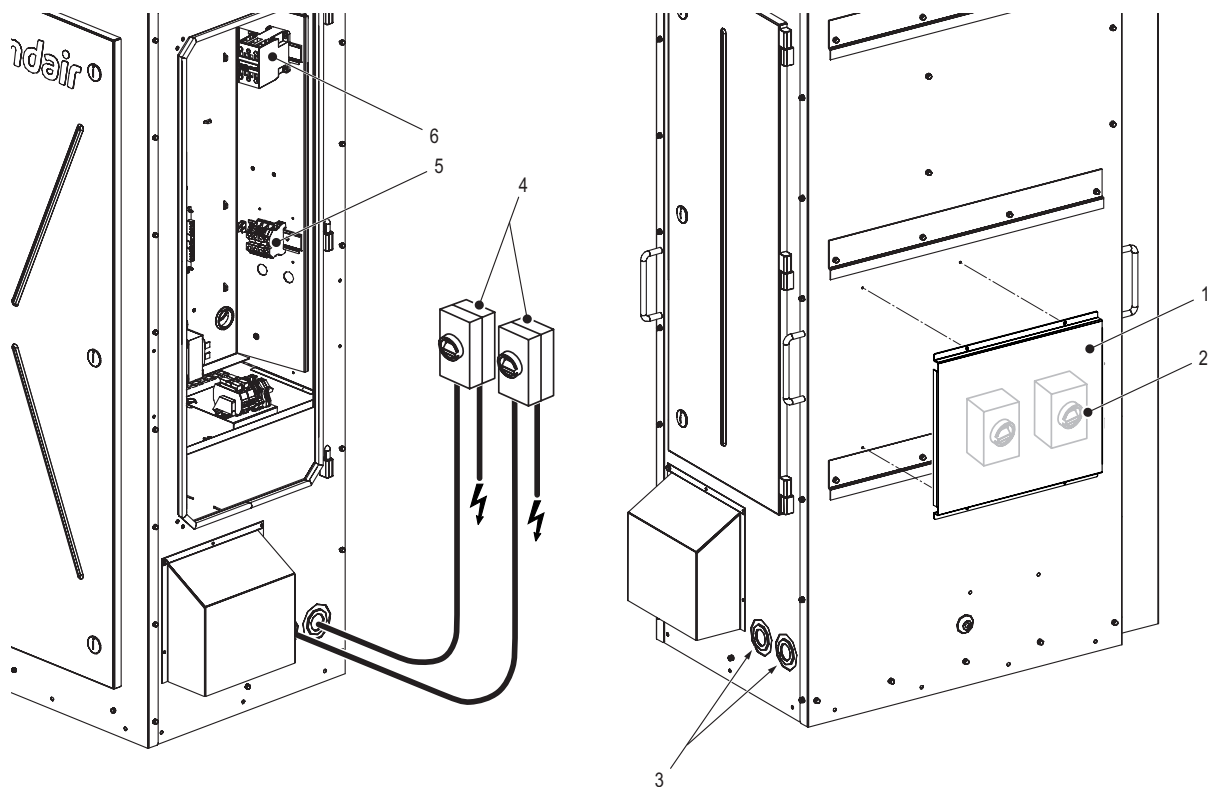

Fig. 15: Condair EL/RS Outdoor Humidifier Power Connection
For units secured to the optional mounting rack, an optional disconnect mounting bracket (option: DC) can be installed on the rear of the unit to which the disconnect switches can then be secured. Refer to Fig. 15.
- All electrical cables MUST enter the side or bottom of the unit through minimum IP55-rated cable glands (supplied by others) to ensure that the IP55 rating for the unit is maintained. Knockouts are available on the side and bottom of the unit for routing the cables into the unit. Refer to Fig. 15.
- Route the power cable into the electrical cabinet and connect it to the main contactor (K1) – for details, refer to Fig. 15. **Note:** If terminal heating voltage is used, connect the power cable to the optional terminal block (option: THV). Refer to the Condair EL/RS installation manuals for connection details.